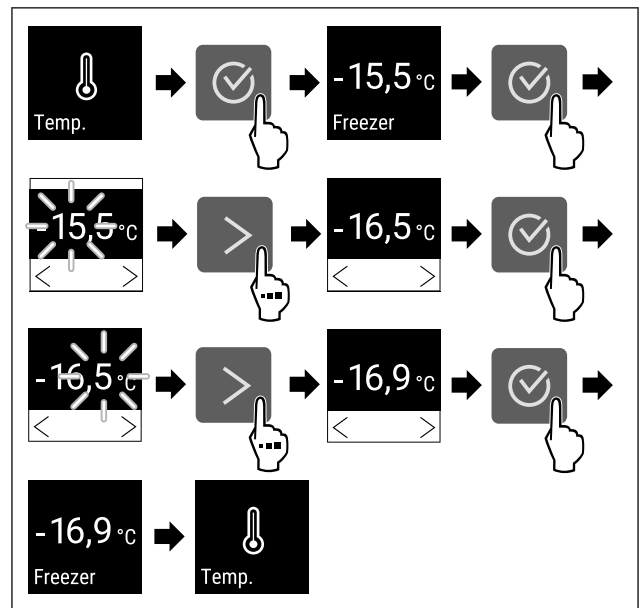

Fig. 66 Changing temperature from -15.5°C to -16.9°C
- ▶ Complete steps (see Fig. 66).